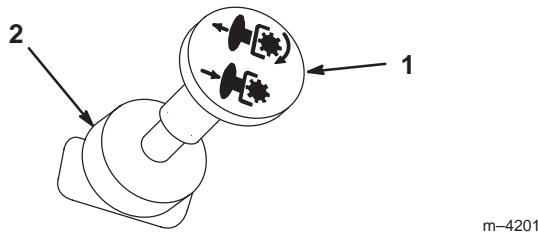

Figure 5
4. Move the PTO (power take off) to Off (Fig. 5).
2. Move the PTO to Off (Fig. 5).